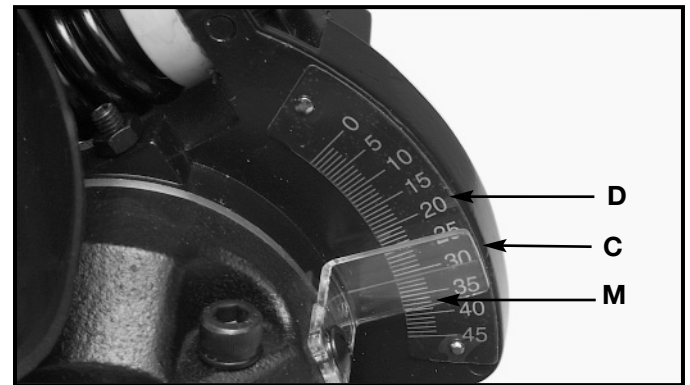

Fig. 19
3. Positive stops are provided to rapidly position the saw blade at 90° and 45° to the table. Refer to the section of this manual titled “**Adjusting 0° and 45° bevel positive stops.**” The bevel angle of the cutting arm is determined by the position of the pointer (C) Fig. 19, on scale (D).
4. In addition, a marked indicator (M) is provided on the bevel scale (33.9°) for cutting crown moulding. Refer to the “**CUTTING CROWN MOULDING**” section of this manual.